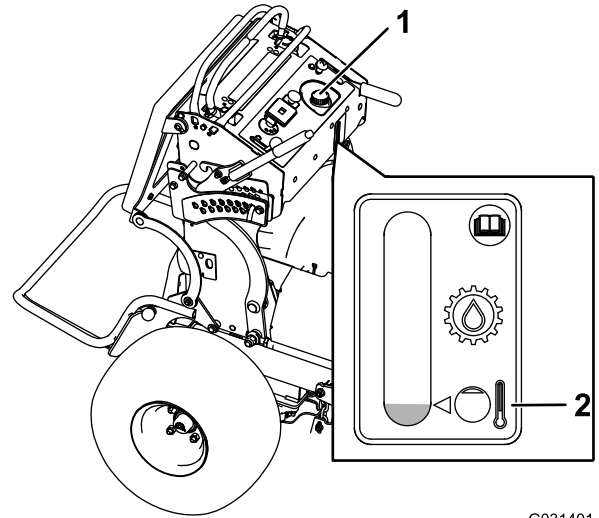

Figure 16
6. Clean the area around the cap and the filler neck of the hydraulic tank (Figure 16).
7. Remove the cap from the filler neck, and add fluid to the reservoir until it reaches the fill mark (Figure 16).